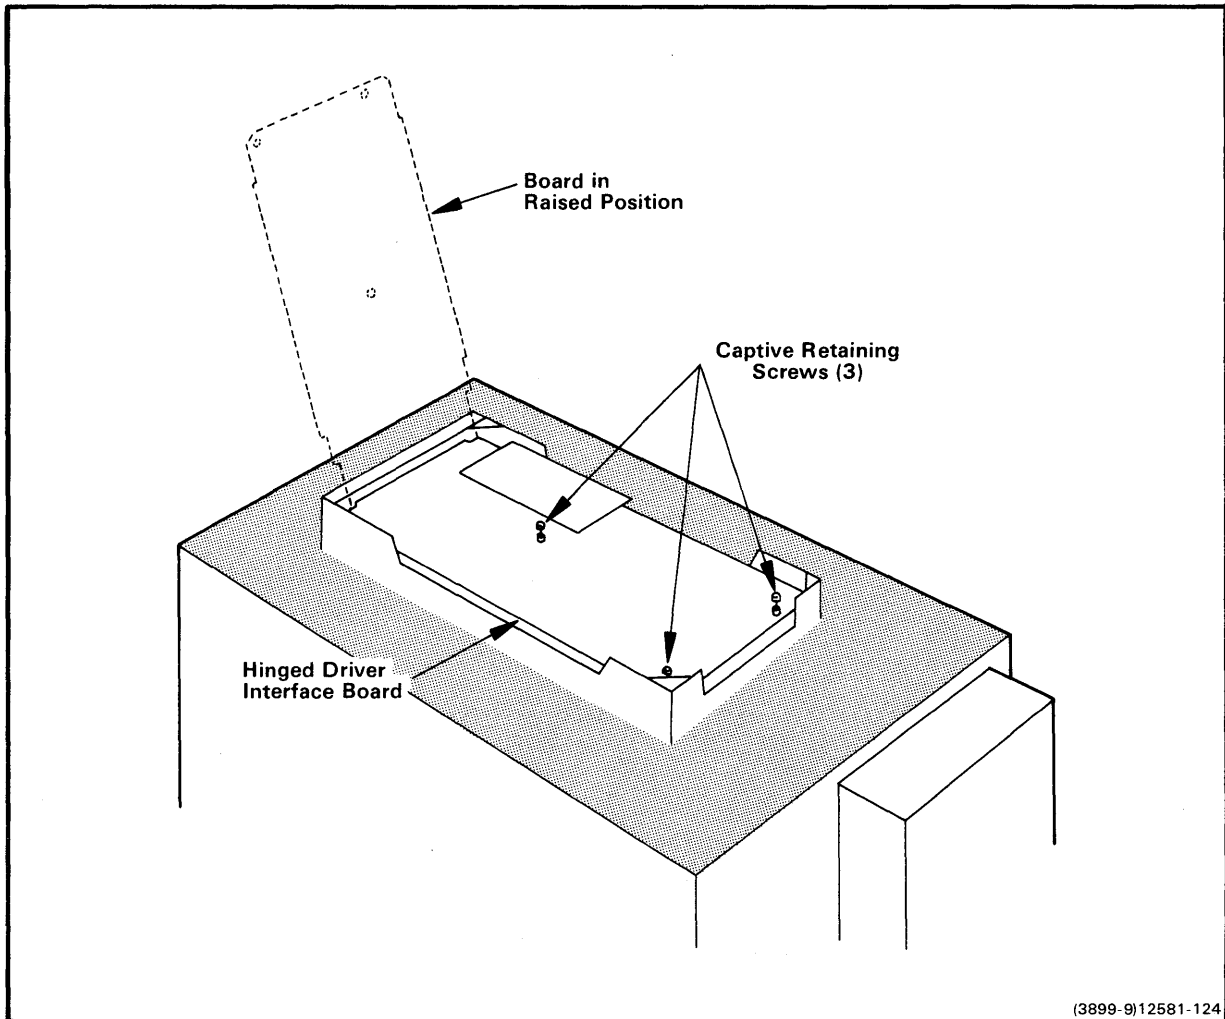

Fig. 18-6. Location of driver interface board retaining screws.
1. Using a flat-blade screwdriver, loosen the three captive retaining screws on the hinged Driver Interface board (see Fig.18-6).